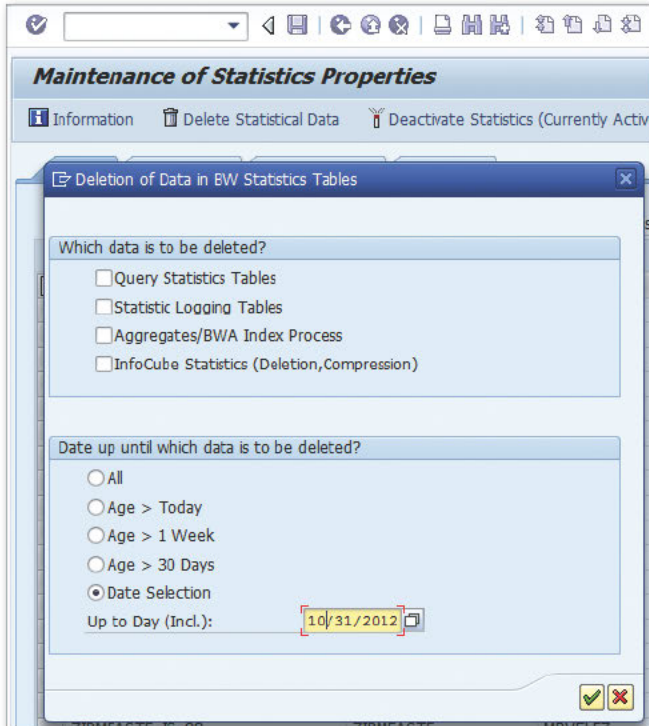

Figure 2 Specifying Date for Deletion of Statistics Data
2. Click on the DELETE STATISTICAL DATA button at the top of the screen, and the popup shown in Figure 2 will appear.
The default selection is PROCESS CHAIN ANALYSIS. For the purpose of this tip, select INFOPROVIDER ANALYSIS and choose EXECUTE to see the screen shown in Figure 2. Enter the InfoProvider for which the analysis needs to be performed, the date range, and then click EXECUTE.